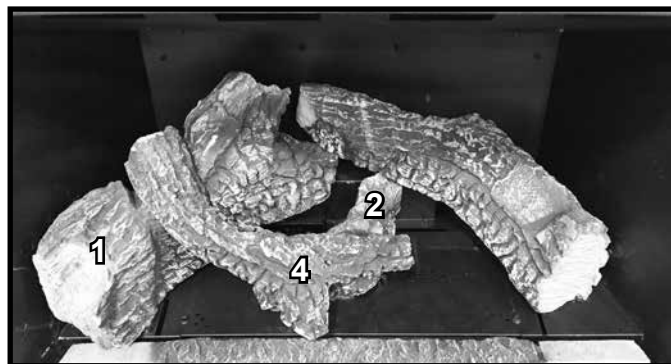

Figure 6. Log #4 Installed
**LOG #4:** Set the non-Y end of Log #4 on the flat spot of Log #1. The end of the log #4 will sit flush with the back of Log #1. The Y-end of log #4 will sit on the flat spot of Log #2. See Figure 6.